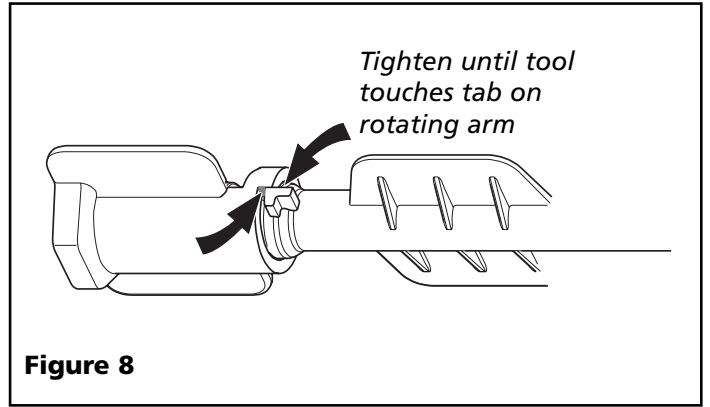

Figure 8
3. Replace nozzle as needed. See Figures 6 and 7. For proper alignment of nozzles, tighten until tool contacts tab on rotating arm, as shown in Figure 8.